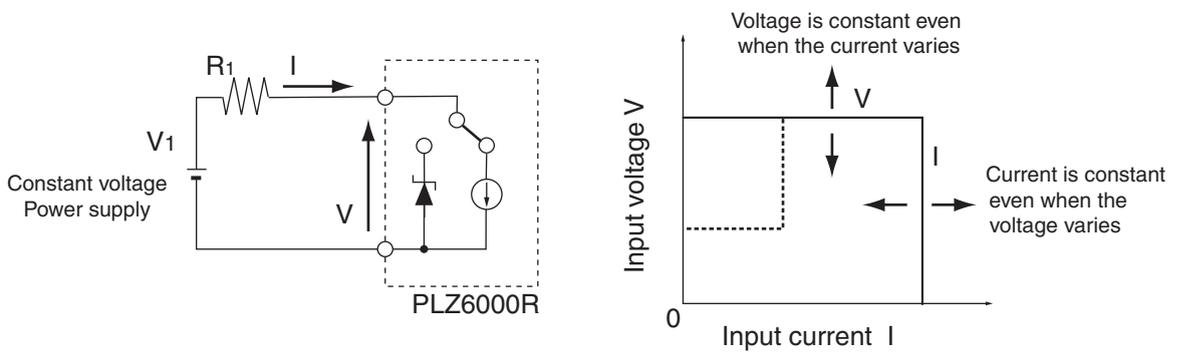

Fig.A-12 Equivalent circuit of the CC+CV mode and operation
When the PLZ6000R is used in CC+CV mode, the PLZ6000R operates as a constant current load and a constant voltage load (shunt regulator) as shown in Fig.A-12. When operating as a constant current load, the PLZ6000R sinks the specified current (I) independent of the output voltage of the constant-voltage power supply (V_M). When operating as a constant voltage load and V_M is greater than V , the input voltage V is kept constant even when the input current I varies. Current does not flow when V_M is less than or equal to V .
We will consider the case when checking the discharge characteristics of a battery of Fig.A-12.